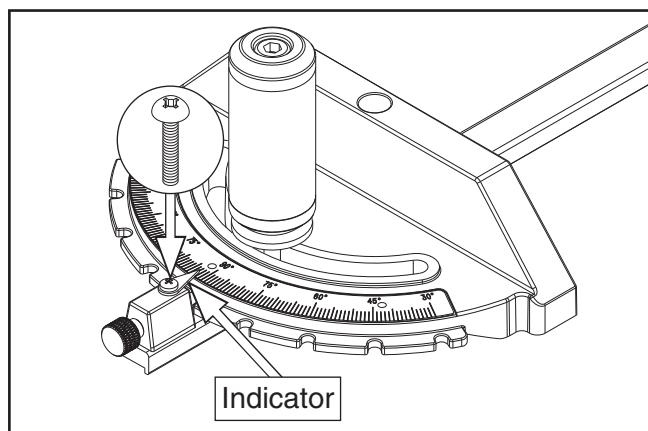

Figure 137. Location of angle indicator and Phillips head screw.
5. Loosen Phillips head screw shown in **Figure 137**, adjust indicator so it points to 90°, then tighten screw to secure.